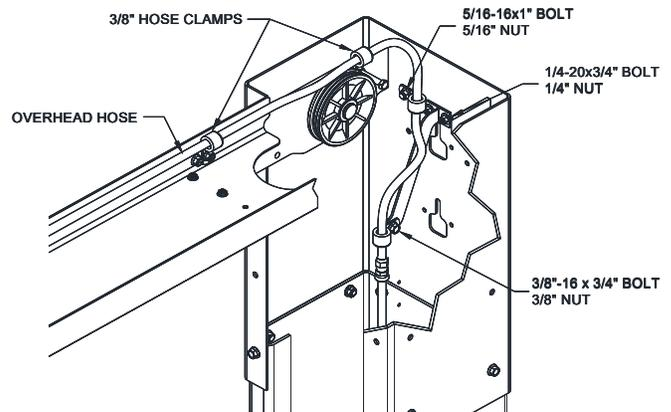

Fig. 13a – Hose Routing,
28) Install the hose support tabs to both idler and power columns using 1/4"-20NC x 3/4" lg. hex flange bolt and nut, see **Fig. 13a** and **Fig. 13b**.
29) Route the idler side hose through the idler side column as shown in **Fig. 13a**, taking care to avoid the synchronizing cables and hydraulic cylinder path. Uncoil the overhead hose and attach it to the idler side hose. Remove slack and tighten all 3 clamps. Route hose across overhead avoiding the synchronizing cables and down through the power side column extension as seen in **Fig. 13b**. Do Not Tighten clamps at this time.